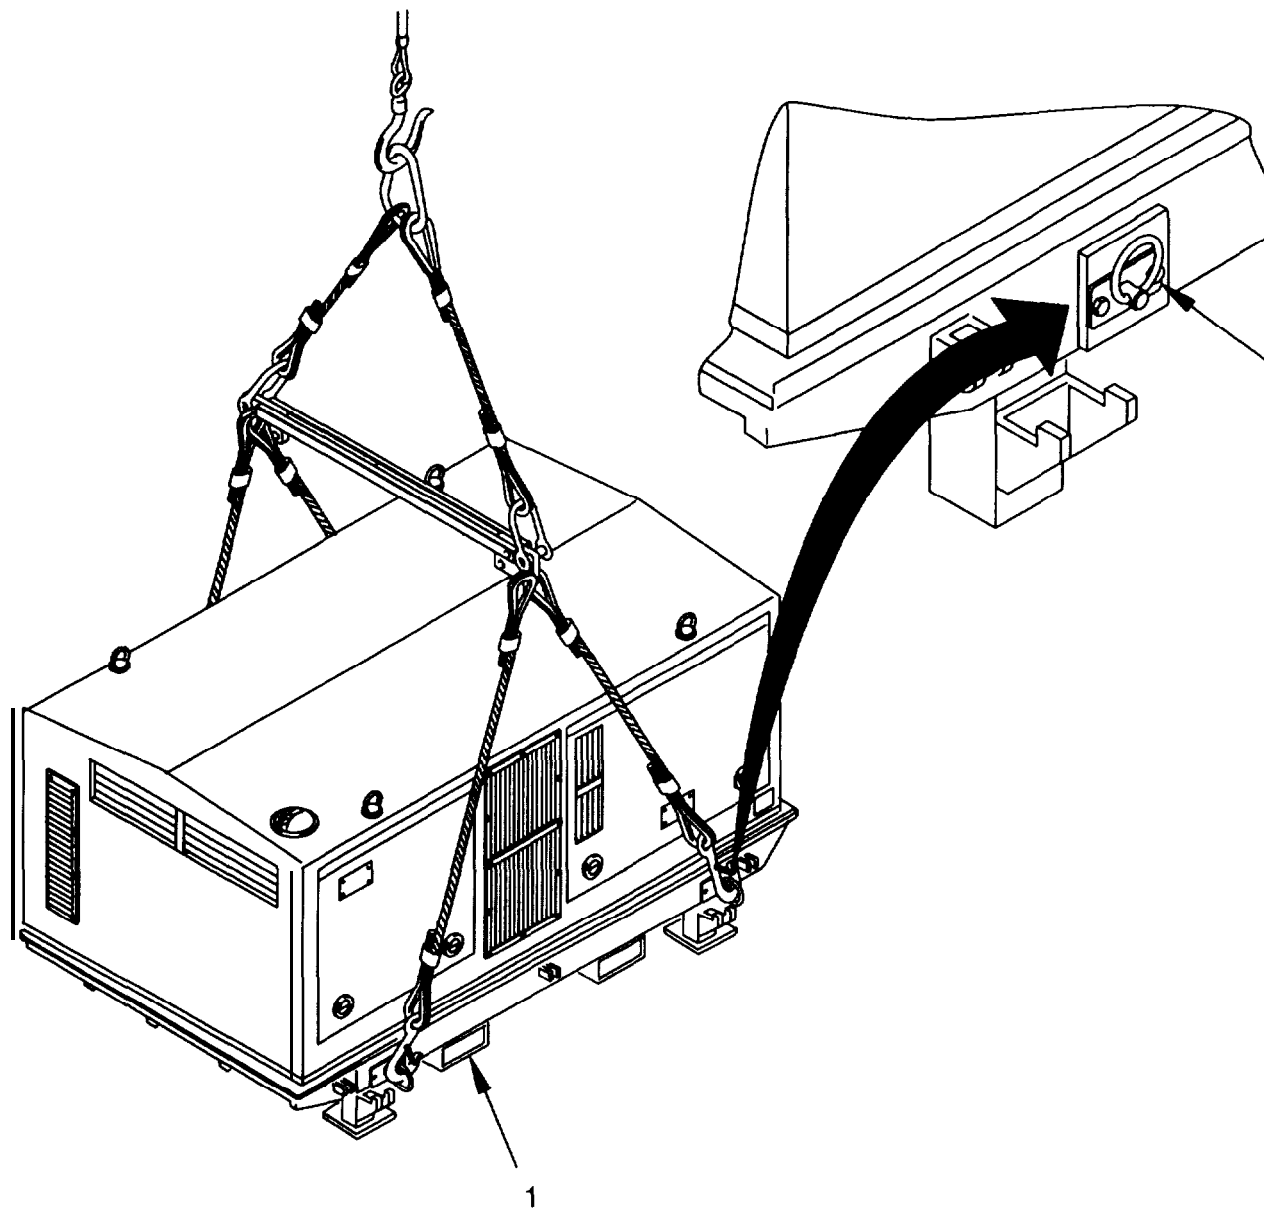

Figure 4-3 Generator Set 150 kW, Unpacked.
- c. Detach film at points (3). The forklift sockets (1, figure 4-3) are located here.
- b. Detach film so the four eyebolts (2, figure 4-3) at the corners are accessible.
- c. Suspend the sling assembly from the crane and position the crane approximately above the center of Generator Set 150 kW as shown in figure 4-3.
- d. Insert the four cable hooks of the sling assembly into the lifting rings (2). Lift up the Generator Set 150 kW with the crane and lower it onto a solid surface.